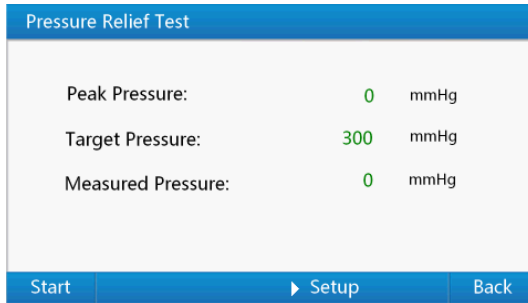

Figure 12 Pressure relief test interface
- 1) Use up or down key in "Pressure Test Menu" to "Pressure Relief", then press "Enter Key" to "Pressure Relief Test" interface shown as Figure 12,As a shortcut, you can use number key "2" to this interface quickly, In this interface, Pressing "Return Key" can get back to "Pressure Test Menu".